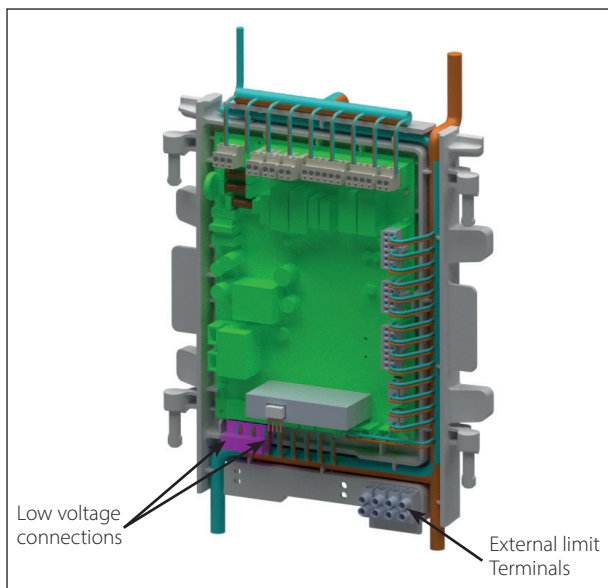

Fig. 33 - Low Voltage Connections
The low voltage terminals are located at the bottom of the CTRLMax control module. The line voltage terminals are located in the lower left corner as shown in Fig. 33 on the right.
1. Connect the DHW aquastat or temperature sensor wires to low voltage terminals X4-1&2 located at the bottom of the CTRLMax control module as shown in *Fig. 33*.
3. Connect the external limit wires to the Manual Reset Limit or Auto Reset Limit low voltage terminals located on the lower right corner of the CTRLMax control module housing as shown in *Fig. 33*.
1. Connect the system temperature sensor wires to low voltage terminals X5-3&4 located at the bottom of the CTRLMax control module as shown in *Fig. 33*.